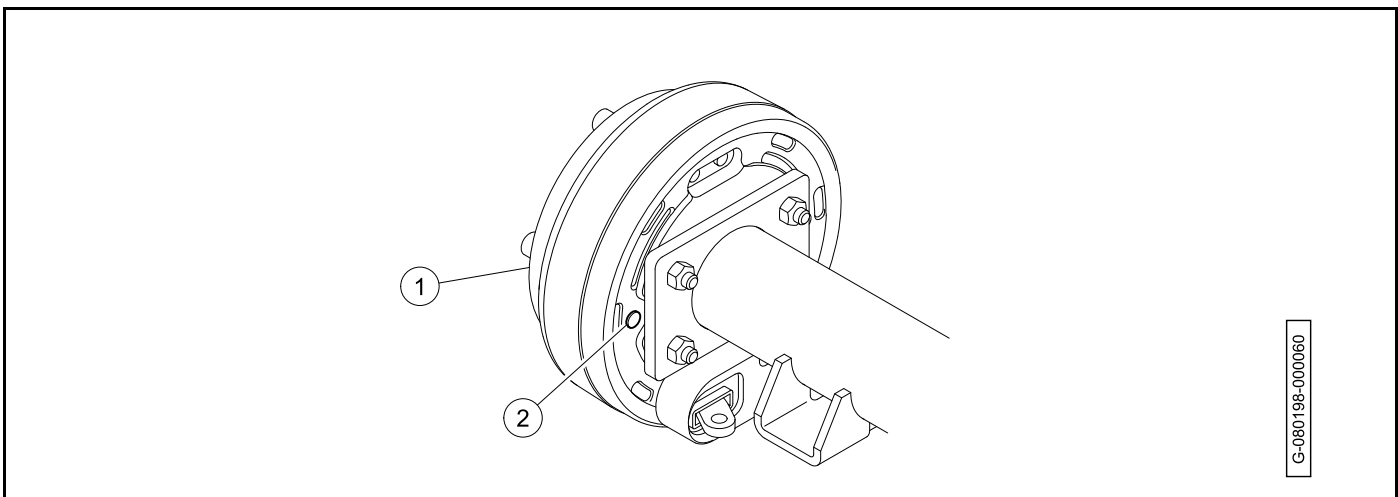

Figure 6-2
9. Loosen the turnbuckle (3) to release tension on the bell crank.
12. Remove the brake drum (1) (**Figure 6-2**). If the brake drum cannot be easily removed: